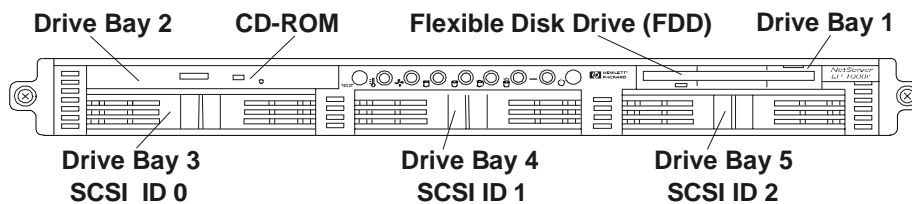

Figure 3-1. HP Netserver Drive Bays
The flexible disk drive and CD-ROM drive, which are standard on all models of the HP Netserver LP 1000r, occupy bays 1 and 2 respectively. See Figure 3-1.
- ◊ The addresses of the SCSI drives are automatically assigned by the drive bay location in the chassis. Refer to Figure 3-1.